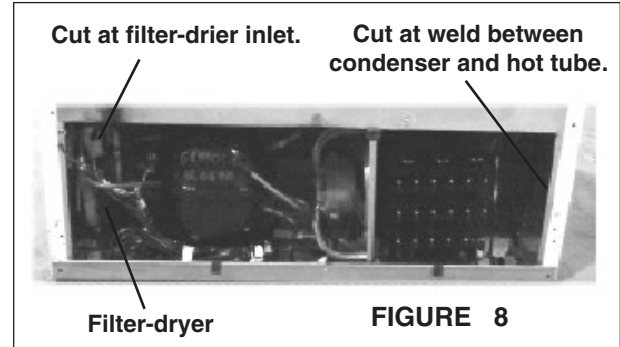

FIGURE 8
4. Using tubing cutter, cut and de-burr tubing from perimeter hot tube at points shown in Figure 8